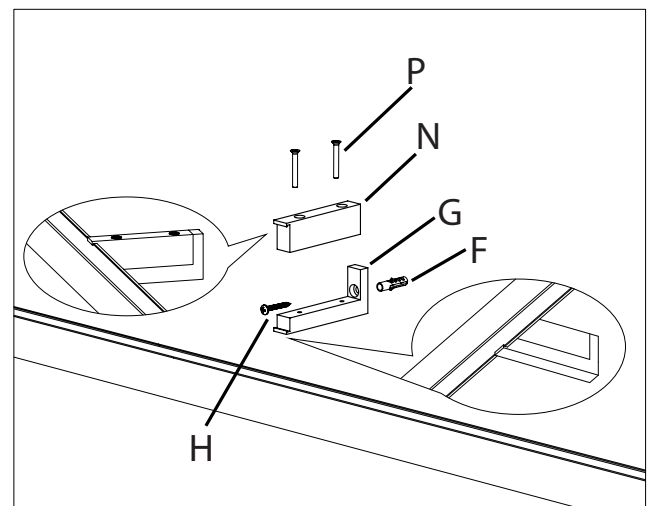

Fig. 3
**OPTIONAL:** Install the center bracket cover (N) to the center bracket (G), secure using bracket screws (P). Make sure both top and bottom clips secure the fixture (B) (Fig. 3).